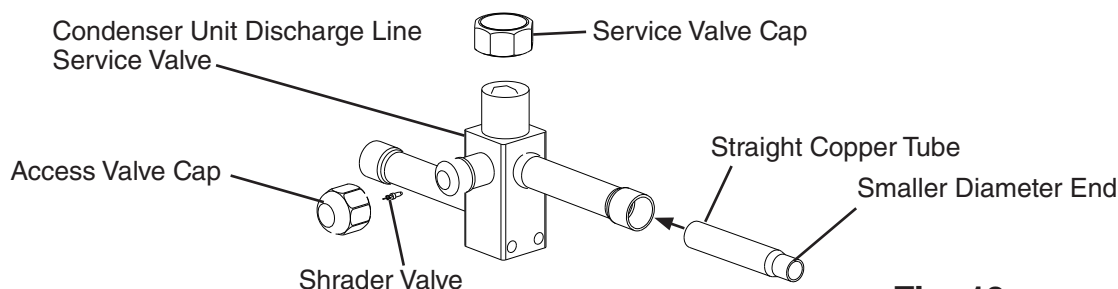

Fig. 10
- 3) Remove the Schrader valves from the icemaker service valves. Next, remove the straight copper tube from the icemaker accessory bag and place it in the icemaker liquid line service valve with the smaller end of the straight copper tube facing outward. See Fig. 10. Note: The smaller diameter must be facing outward. Next, place the liquid line copper tube into the straight copper tube.
- 6) Remove the Schrader valves from the condenser unit service valves. Next, remove the straight copper tube from the accessory bag and place it in the condenser unit liquid line service valve with the smaller end of the straight copper tube facing outward. See Fig. 10. Note: The smaller diameter must be facing outward. Next, place the liquid line copper tube into the straight copper tube.